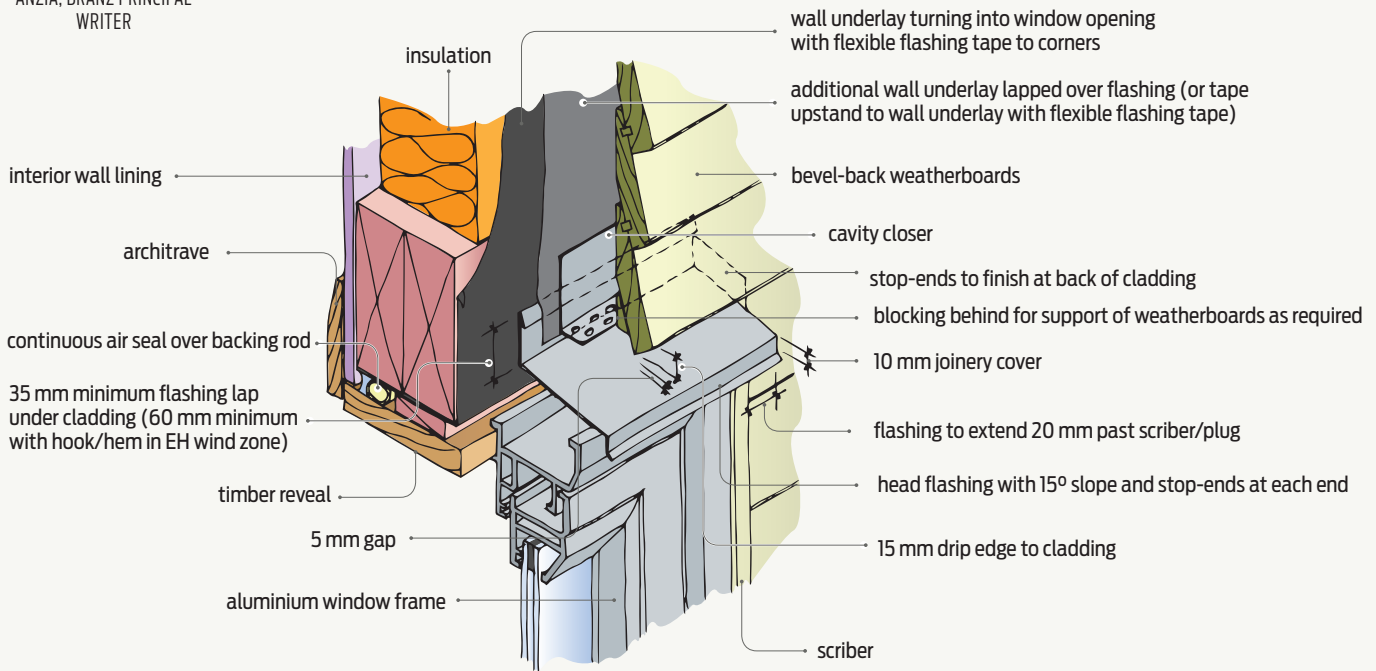

Figure 1 Option 1 – aluminium window head detail – bevel-back weatherboards on cavity (based on E2/AS1 Figure 85(a)).
- Option 1: Where the front downturn of the head flashing *fits firmly* over the top window flange – for example, E2/AS1 Figure 85(a) for cavity weatherboard (Figures 1 and 2).
Option 1, where the head flashing fits firmly over the top window flange, is the more traditional detail and is, in BRANZ's view, the neater and safer solution (Figures 1 and 2).